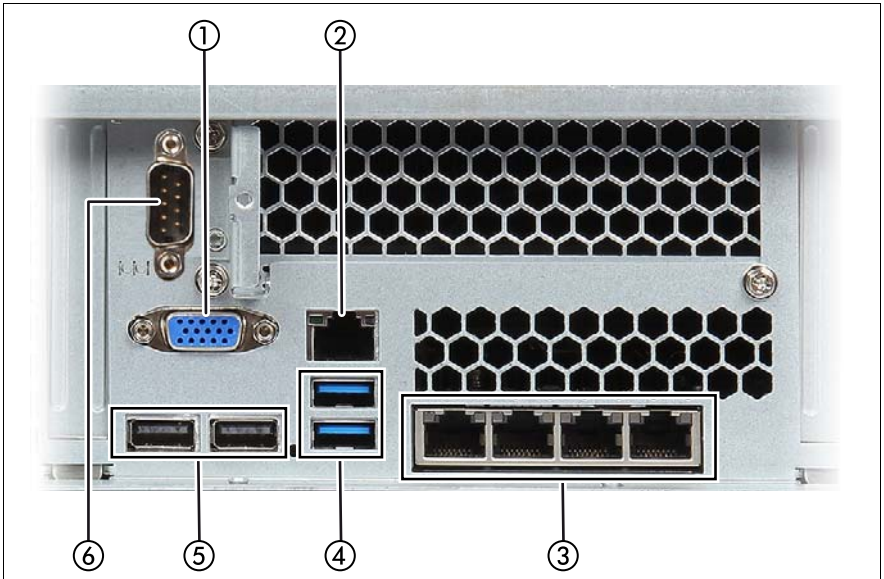

Figure 2: Connection panel on the rear
- ▶ Connect the monitor, keyboard and mouse to the standard connectors of the server (see table and figure 2 on page 53).